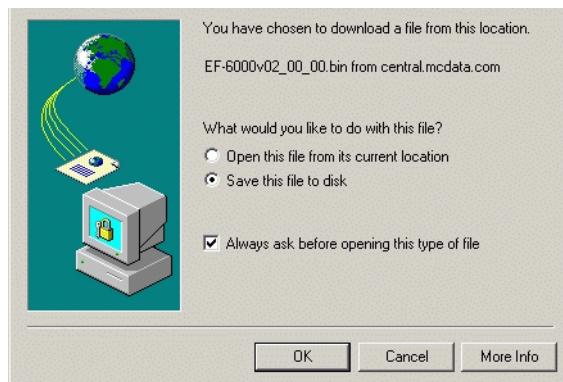

Figure 4-38 File Download Dialog Box
8. In the *Action* column adjacent to the approved request for the firmware version, click *Download*. The *File Download* dialog box displays (Figure 4-38).